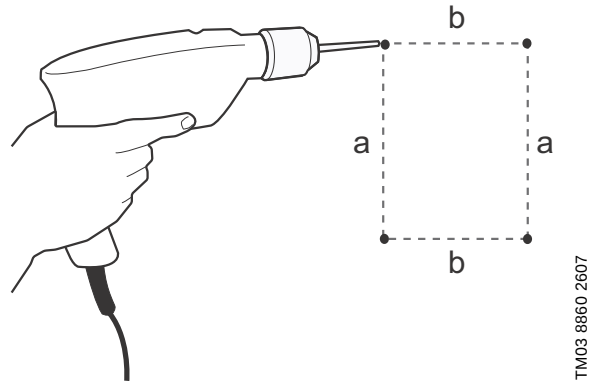

Fig. 30 Drilling holes for mounting
1. Mark and drill holes. See fig. 30; also see section Main dimensions and weight on page 49.